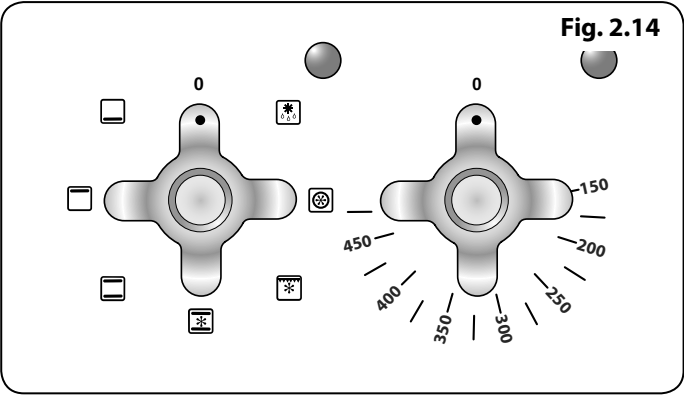

Fig. 2.14
- 1. The multi-function oven has two controls: a function selector and a temperature setting knob (**Fig. 2.14**).